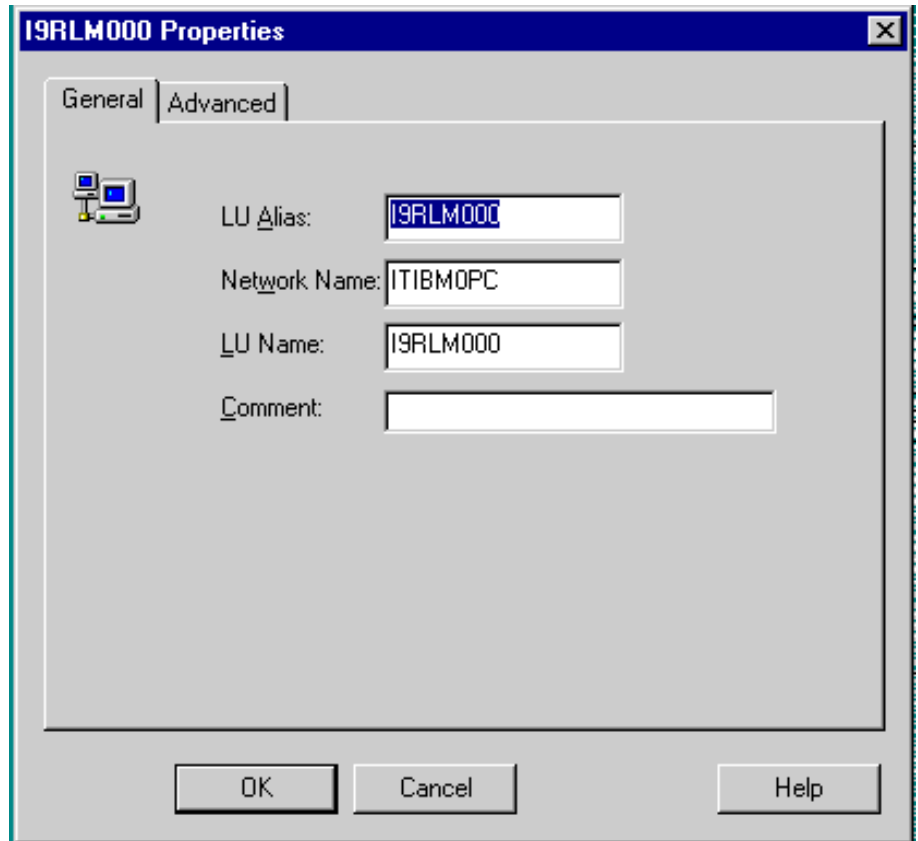

Figure 45. Configuring APPC LU properties: general page
- a. In the **LU Alias** field, enter the LU alias which identifies the LU to local TPs. It can be the same as the LU name, as shown in Figure 45. The alias can be from one to eight characters long.